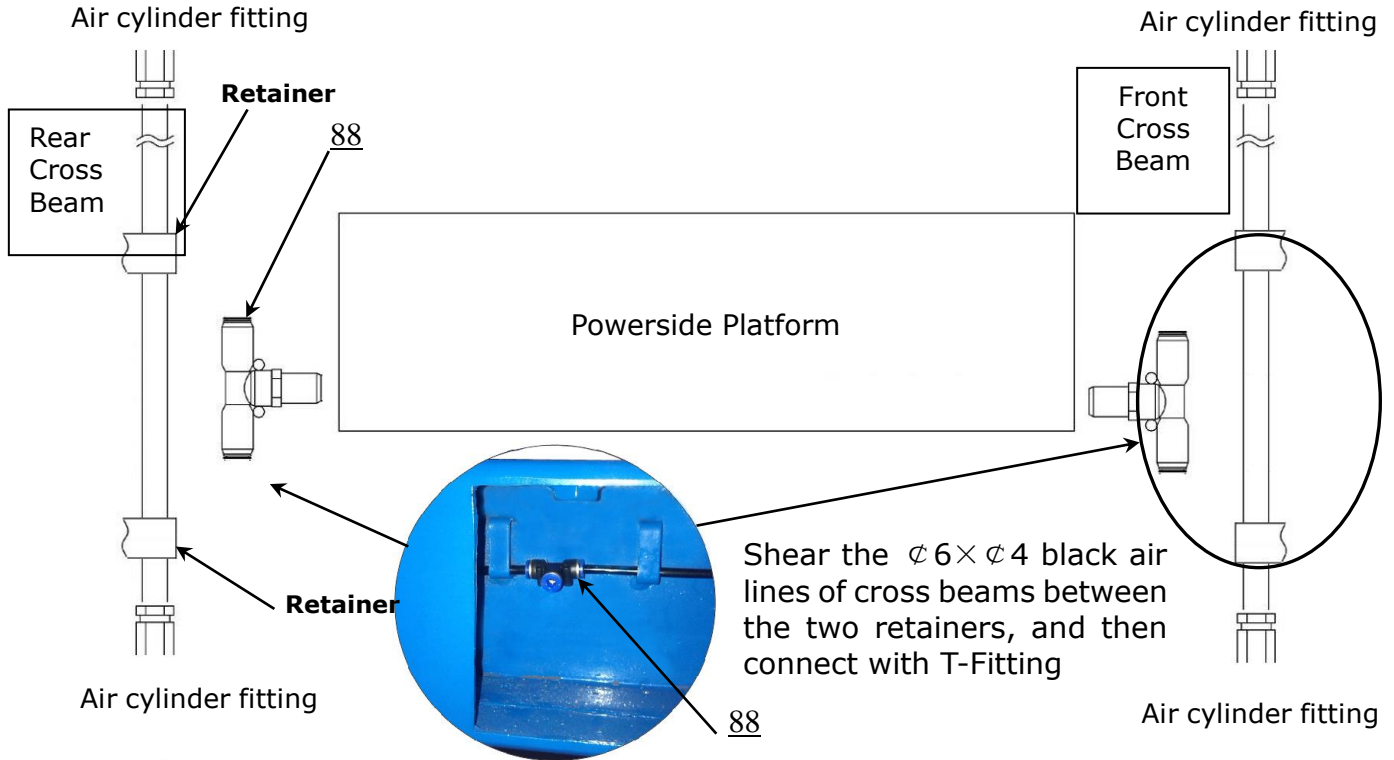

Fig. 26
L. Install hydraulic system (See Fig. 26).
1. Shear the $\phi 6 \times \phi 4$ black air lines of cross beams between the two retainers, and then connect with T-Fitting (See Fig. 26).